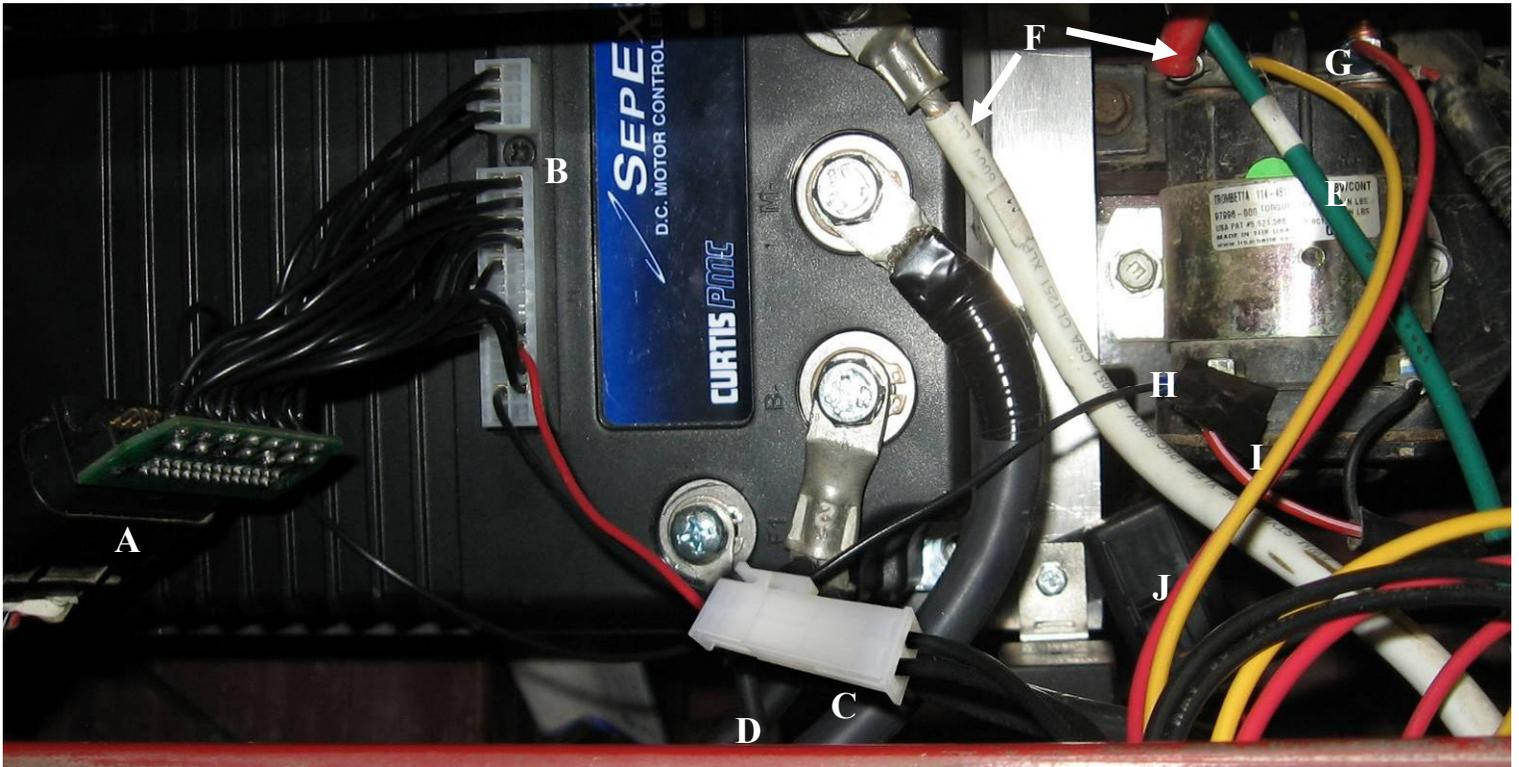

Figure 15
18. Check the following, shown on **Figure 15**.